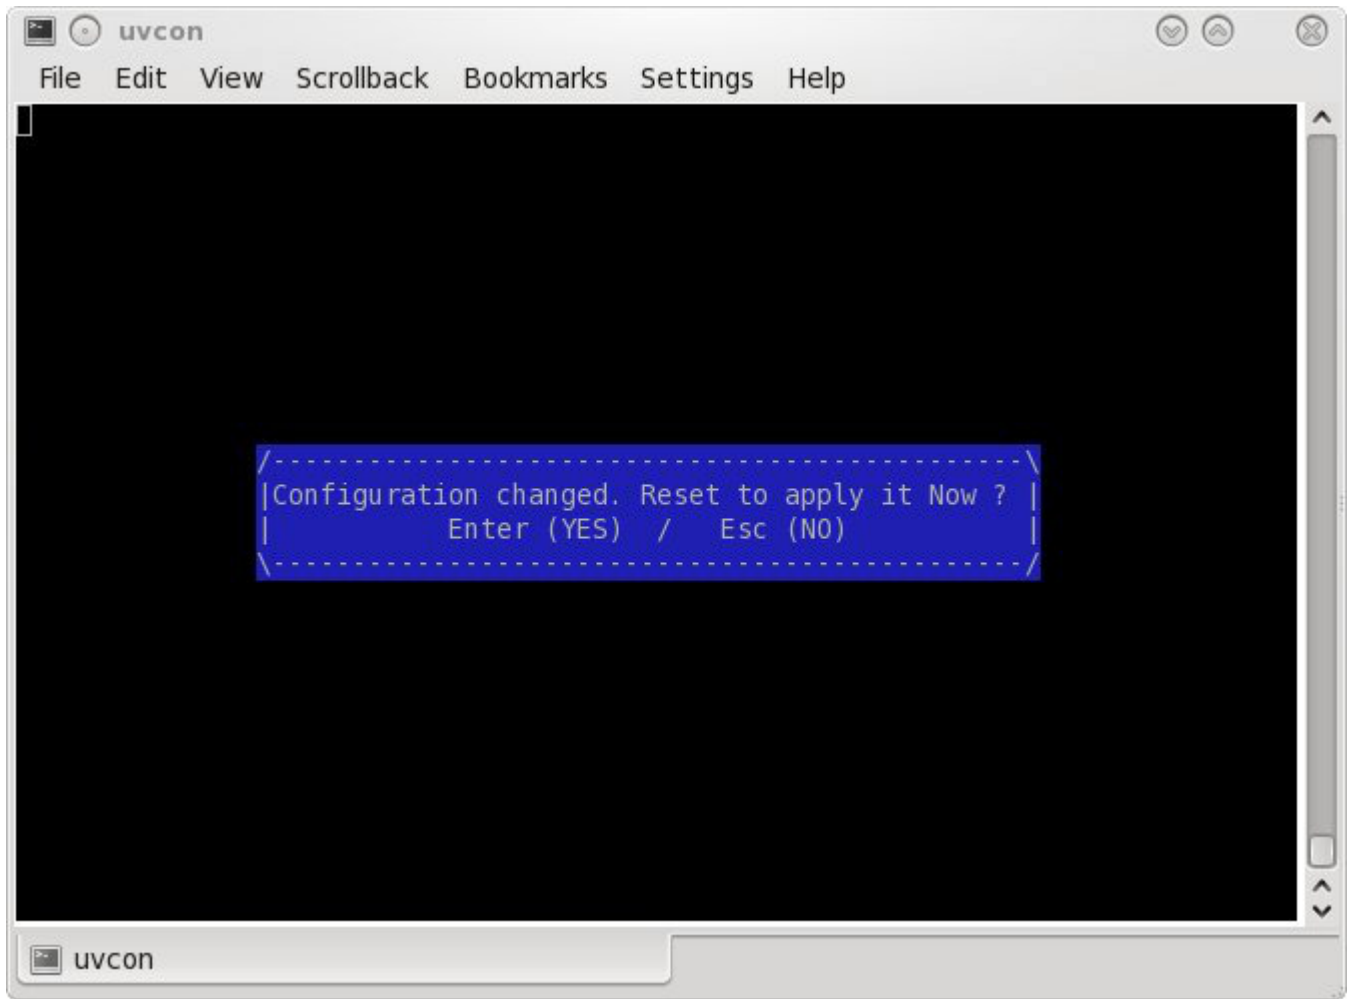

Figure 2-8 Reset Screen
8. Press the `Esc` key until the screen shown in Figure 2-8 on page 34 appears: